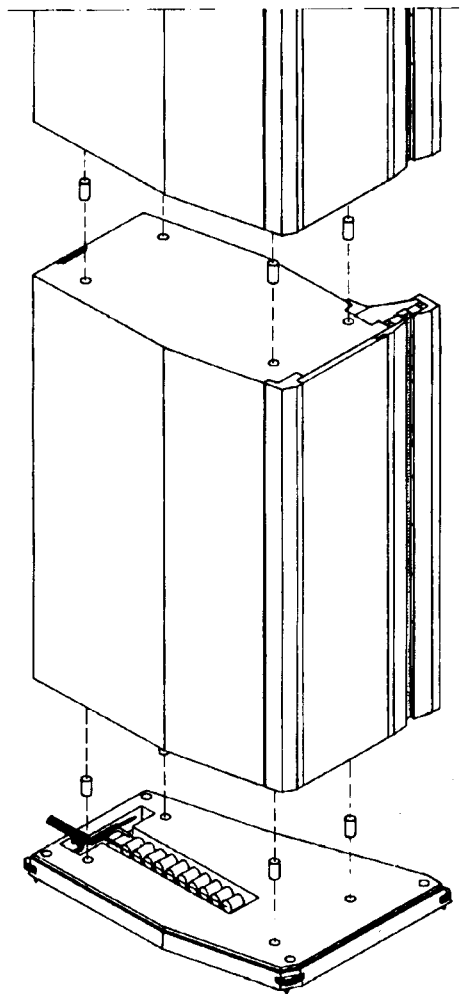

Fig. 5
1. Place four dowels in the pre-drilled holes in the base (See Fig. 5). The holes are slightly larger than the dowels to allow fine adjustment of the alignment of the 3 modules.